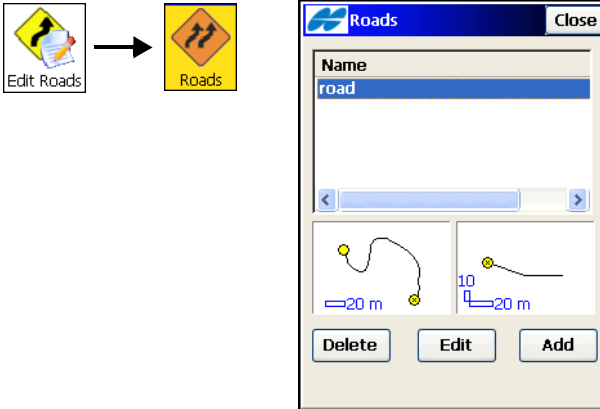
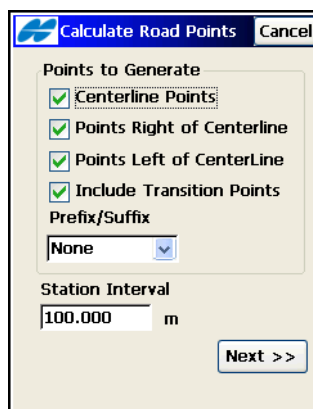

Figure 7-1. Roads
Figure 7-3. Calculate Road Points
To edit a road, tap **Edit Roads** ► **Roads**. The *Roads* screen displays (Figure 7-1).
3. To save the road file, tap **OK** and return to the *Roads* screen (Figure 7-1 on page 7-2).
After the road is edited, calculate the road points using the *Calculate Road Points* option from the Help Icon menu in the upper-left corner of the *Roads* screen (Figure 7-1 on page 7-2). The *Calculate Road Points* screen displays (Figure 7-3 on page 7-4).
6. Select the desired road point types on the *Calculate Road Points* screen (Figure 7-3 on page 7-4). If needed, change the station interval and tap **Next** to set the properties of the generated points in corresponding screens. In the last screen,